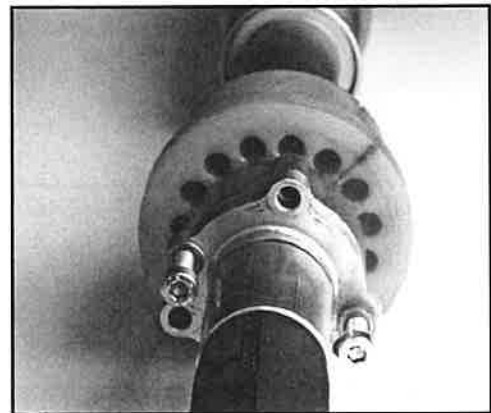

FIG. 58: 2 SCREWS USED AS JACK SCREWS
5. Use 2 socket head cap screws as jack screws to remove the whip hose (see Fig. 58).